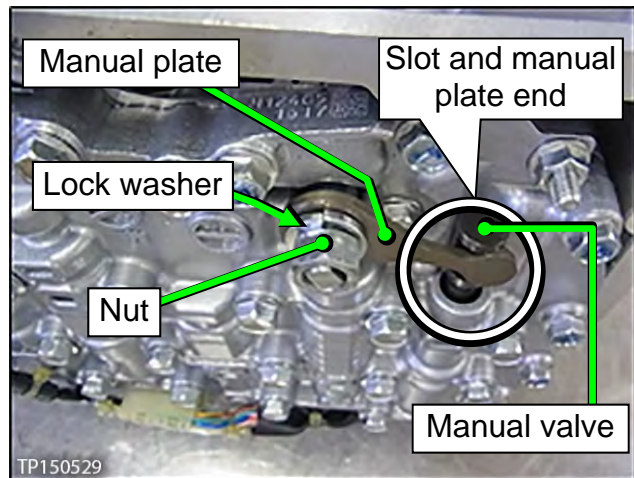

Figure 28
16. Install the manual plate, lock washer, and nut (Figure 28).